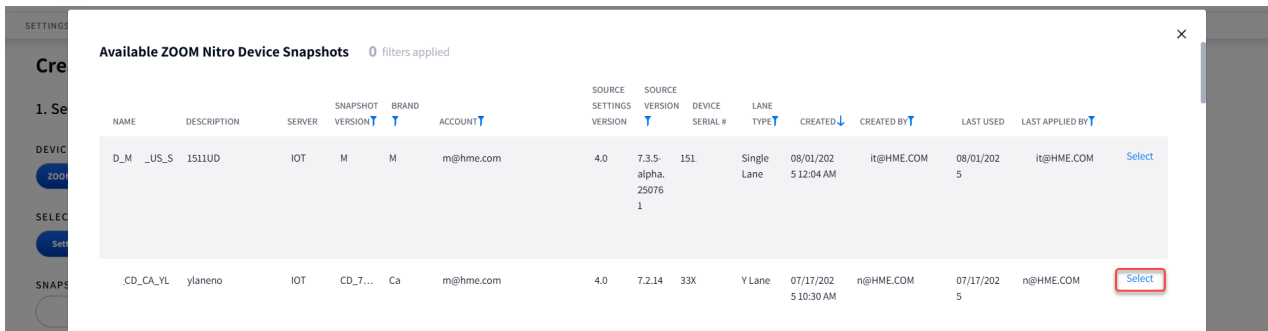

Fig. 13.9
5. If you know the snapshot filename, you can enter it directly into the SNAPSHOT field (Fig. 13.8). Or, beneath the field, you can tap/click the **Select a Snapshot** option to open a list of available snapshots (Fig. 13.9).